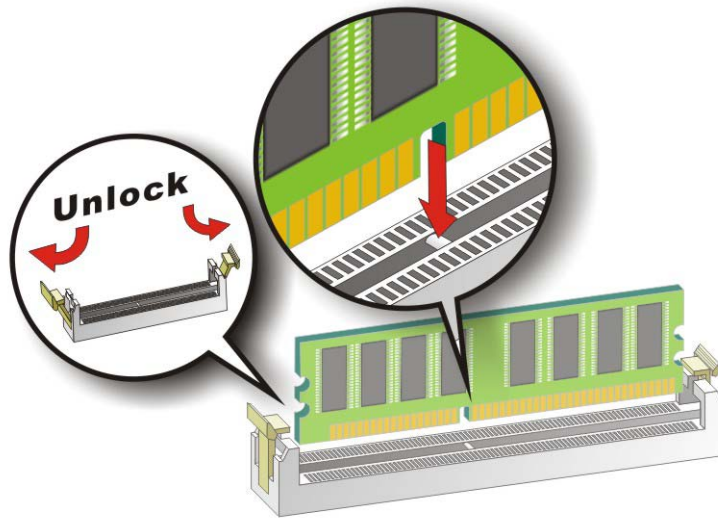

Figure 4-7: DIMM Installation
To install a DIMM, please follow the steps below and refer to **Figure 4-7**.
- Step 1: Open the DIMM socket handles.** Open the two handles outwards as far as they can. See **Figure 4-7**.
- Step 2: Align the DIMM with the socket.** Align the DIMM so the notch on the memory lines up with the notch on the memory socket. See **Figure 4-7**.
- Step 3: Insert the DIMM.** Once aligned, press down until the DIMM is properly seated. Clip the two handles into place. See **Figure 4-7**.